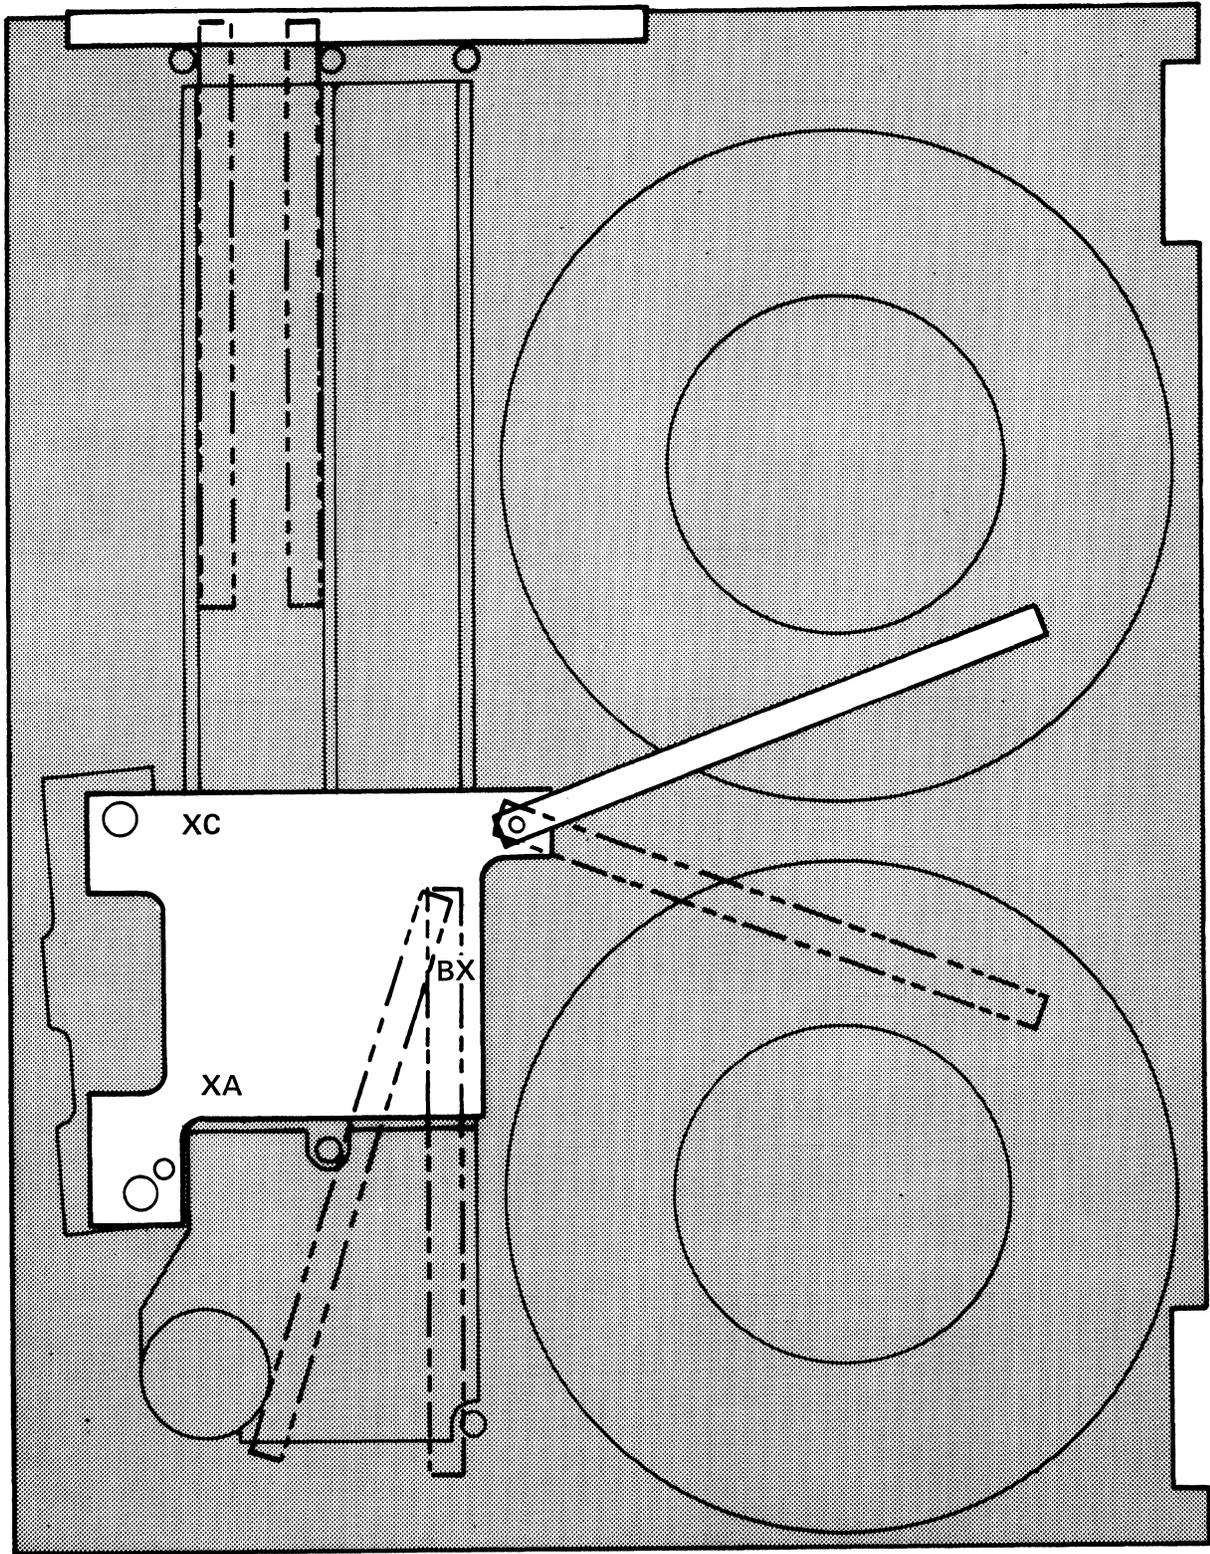

Figure 5-9. Tape Guide Alignment Tool
- e. Using the screws supplied with the Bright Alignment Tool, mount the alignment tool on the fixed guides as shown in figure 5-9.
- e. Figure 5-9 shows how to position the tool (Part No. 00326) for the vacuum unit.
- d. Using the screws supplied with the Bright Alignment Tool, mount the alignment tool on the fixed guides as shown in figure 5-9.
- e. Figure 5-9 shows how to position the tool (Part No. 00326) for the vacuum unit. Position the alignment tool against the capstan. The center of the capstan should be in the center of the tool.